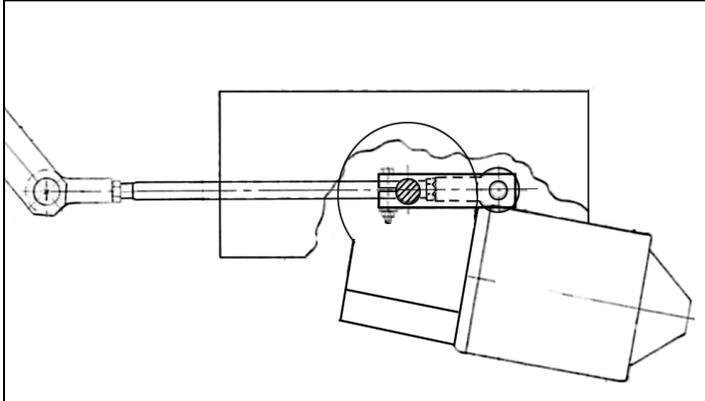

FIGURE 3 : CRANK ARM AND ROD POSITION
11. Reinstall the crank arm on the motor shaft so that the crank arm and the lever axes are aligned. The extremity of crank arm opposite to motor shaft must be at maximum distance on the right (figure 3). Tighten the screw holding the crank arm to the motor shaft.